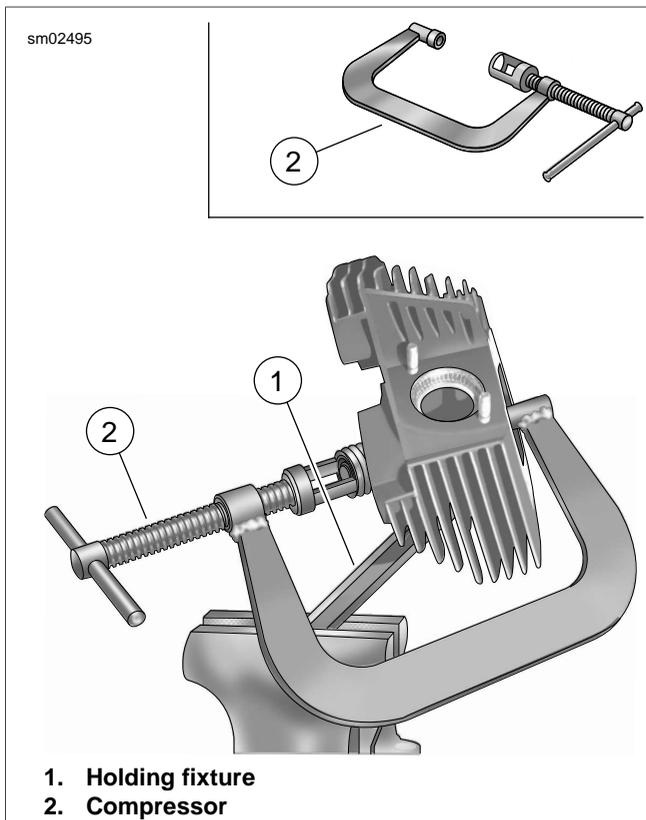
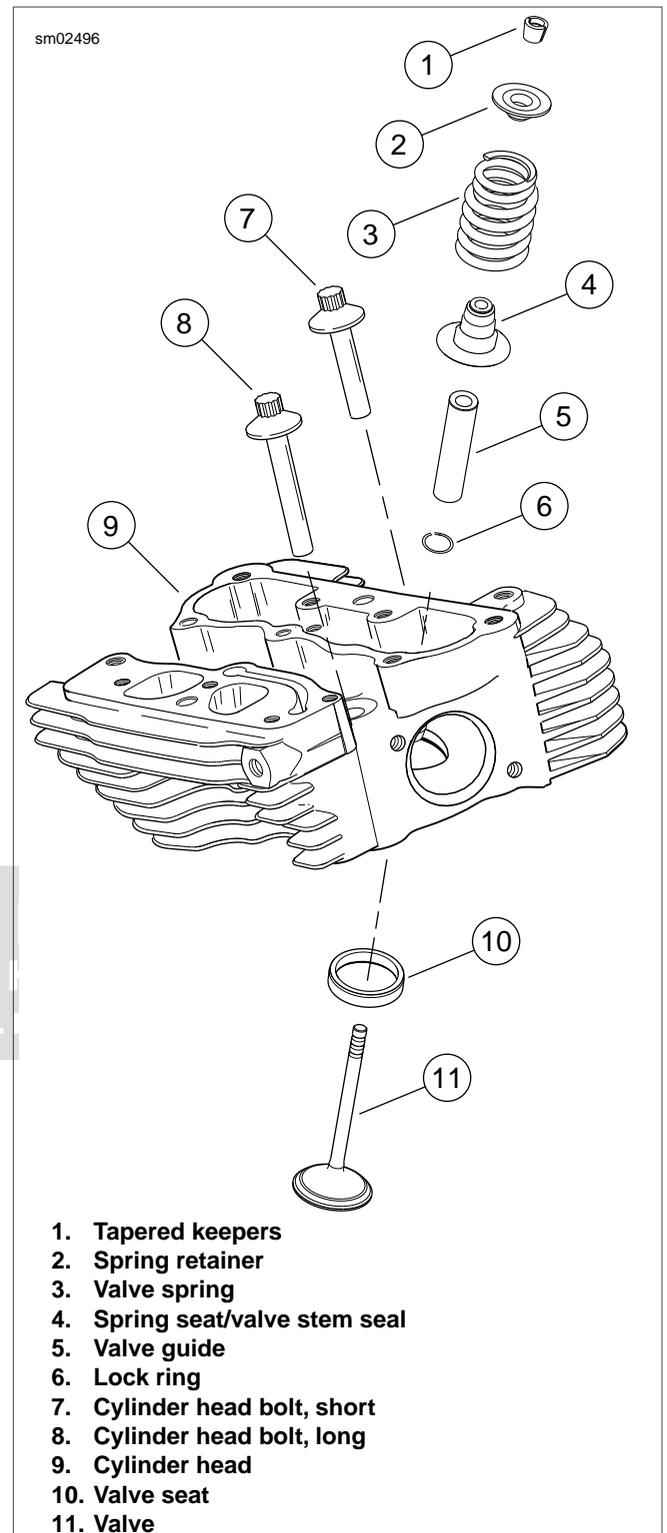

Figure 3-81. Valve Spring Compressor (Part No. HD-34736-B)
Figure 3-82. Cylinder Head Assembly
3. See Figure 3-81. Release valve spring compression.
- a. Place VALVE SPRING COMPRESSOR (Part No. HD-34736-B) (2) over cylinder head. Center blunt end on the valve head. Seat adapter at end of forcing screw on the valve spring retainer.
- c. See Figure 3-82. If spring retainer (2) has not broken free of tapered keepers (1), give head of tool a sharp tap with a soft mallet. Using magnetic rod or small screwdriver, remove the keepers (1) from the valve stem (11) groove.
4. Remove the spring retainer (2) and valve spring (3).
5. Slide the valve (11) from the valve guide (5).
1. See Figure 3-82. Remove old gasket material from cylinder head (9). Gasket material left on sealing surfaces will cause leaks.